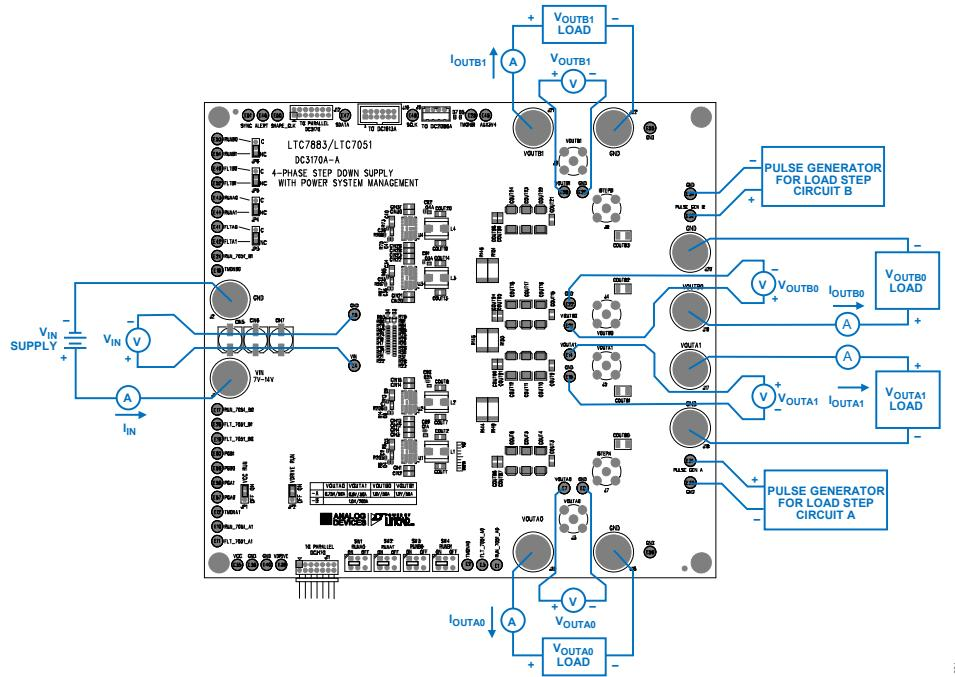
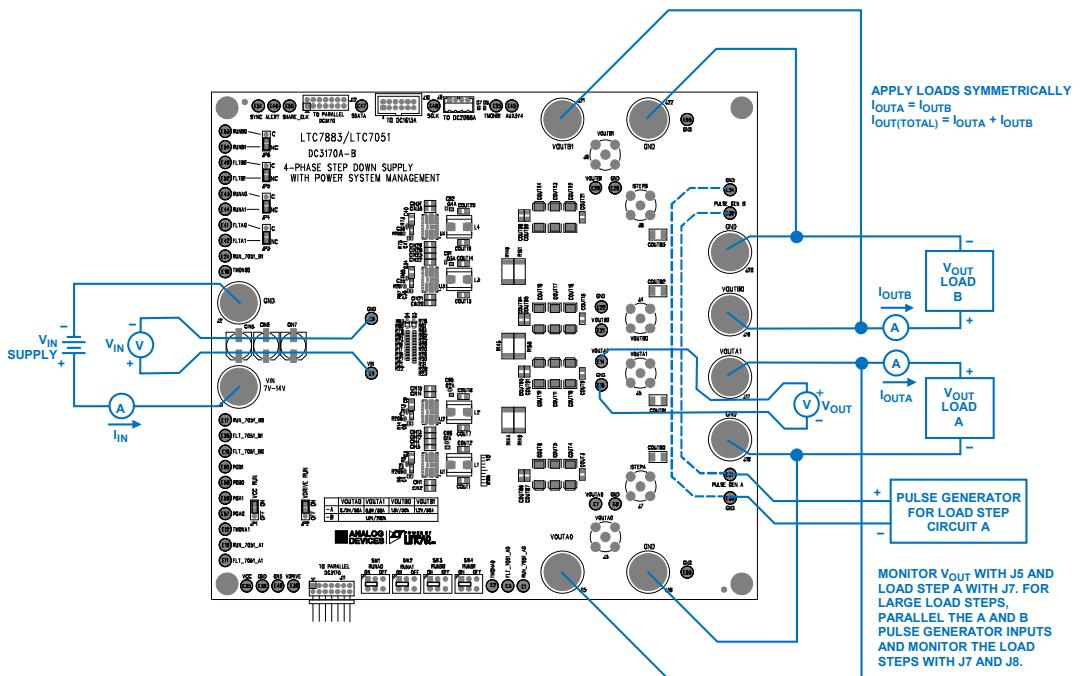

Figure 1. Proper Measurement Equipment Setup for the DC3170A-A
Figure 2. Proper Measurement Equipment Setup for the DC3170A-B
The evaluation setup for the DC3170A-A-B is straight forward. While reading the instructions below, see either Figure 1 or Figure 2 for the DC3170A-A or DC3170A-B, respectively. Next, follow the procedure below:
Instructions on how to take accurate efficiency measurements are provided below. While following these instructions, see either Figure 1 (DC3170A-A) or Figure 2 (DC3170A-B) and the schematic.
1. See the setup diagrams shown in Figure 1 (DC3170A-A) or Figure 2 (DC3170A-B) and the schematic.